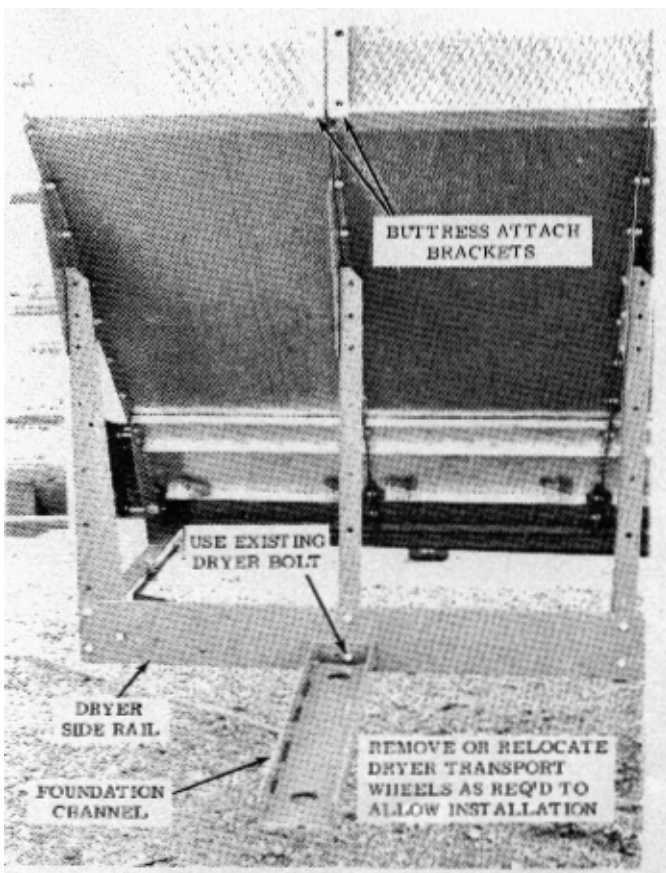

Fig. 1 - FOUNDATION CHANNEL BRACKET
- A. Connect the 8 foundation channel brackets onto the dryer side rails as shown in Fig. 1. Use care to insert bolt through the required channel hole to properly center the channel brackets with the buttress attach brackets (located on side of dryers).